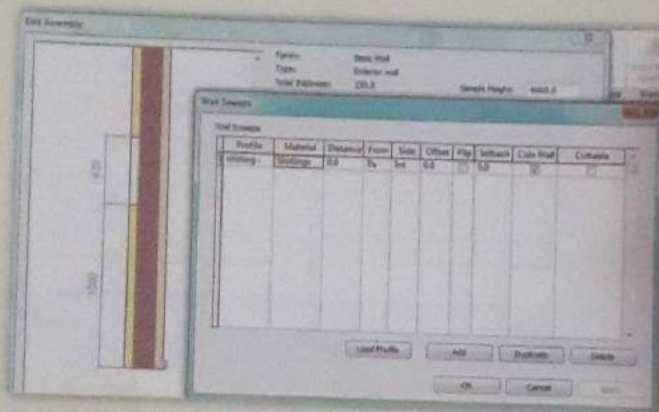

Figure 97: Wall Sweeps
6. Click apply to see the changes in the preview (Figure 97).